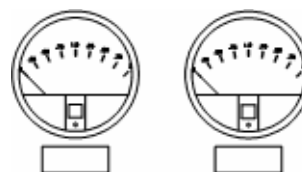

Figure 10 - Differential Pressure Gauges
There are two (2) differential pressure gauges which indicate the pressure drops across the rotor. (See Figure 10) The "Process" and "Reactivation" airflow through the desiccant rotor are set to provide optimum performance. Refer to the Technical Data Sheet included with the unit to determine the appropriate values for the rotor pressure drops (inches w.c.).